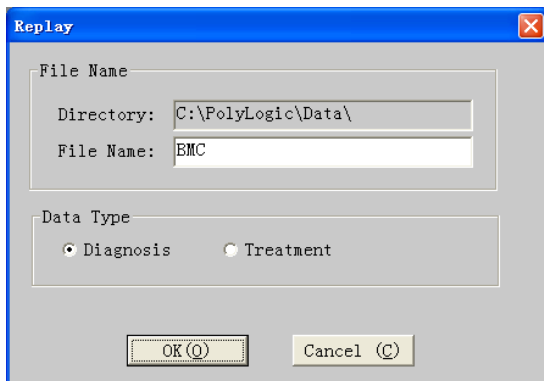

Figure 2-5 "Replay" dialog box
- ⑥ Recording start time is set by the system at the beginning of the recording time which is confirmed by the internal clock. If YH-600A Pro clock is not correct, modify it in the above login screen. The recording end time defaults to 12 hours after the recording starts. In fact, in the process of data transmission, the system can automatically identify the actual end time of record. YH-600A Pro will automatically stop after data transmission is finished. So there is no need to change the recording end time in normal situations.
- ⑦ Enter patient information one by one. Click "OK" button and "Replay" dialog box pops up (Figure 2-5).